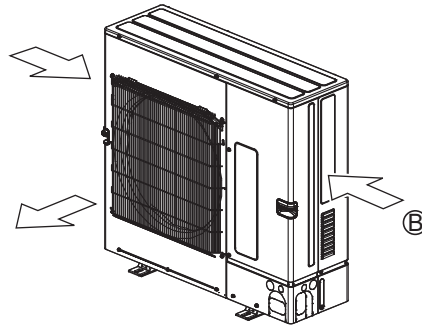
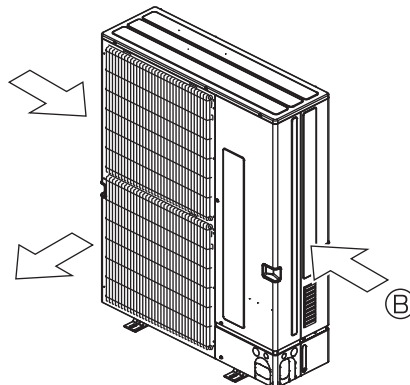

Fig. 12-1-2b
Fig. 12-1-2d
- ② Position the unit so that the air outlet blows perpendicularly to the seasonal wind direction, if possible. (Fig. 12-1-2b, Fig. 12-1-2d)